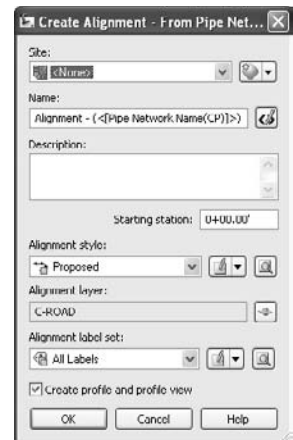

Figure 13.13
- At the **Select next Network Part or [Undo]:** prompt, select `Pipe A`, `CB 2`, `Pipe B`, `CB 4`, `Pipe D`, and `SDMH`. Press `↵`. The **Create Alignment - From Pipe Network** dialog will appear as shown in Figure 13.13.